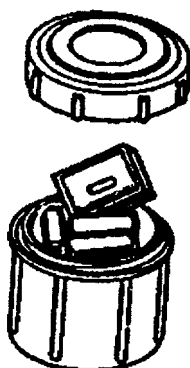

Figure 2-18. Matches with Container
- k. Matches with Container. The non-safety matches are contained in a plastic waterproof container (See Figure 2-18). These matches are used to start fires for cooking, heating and signaling.